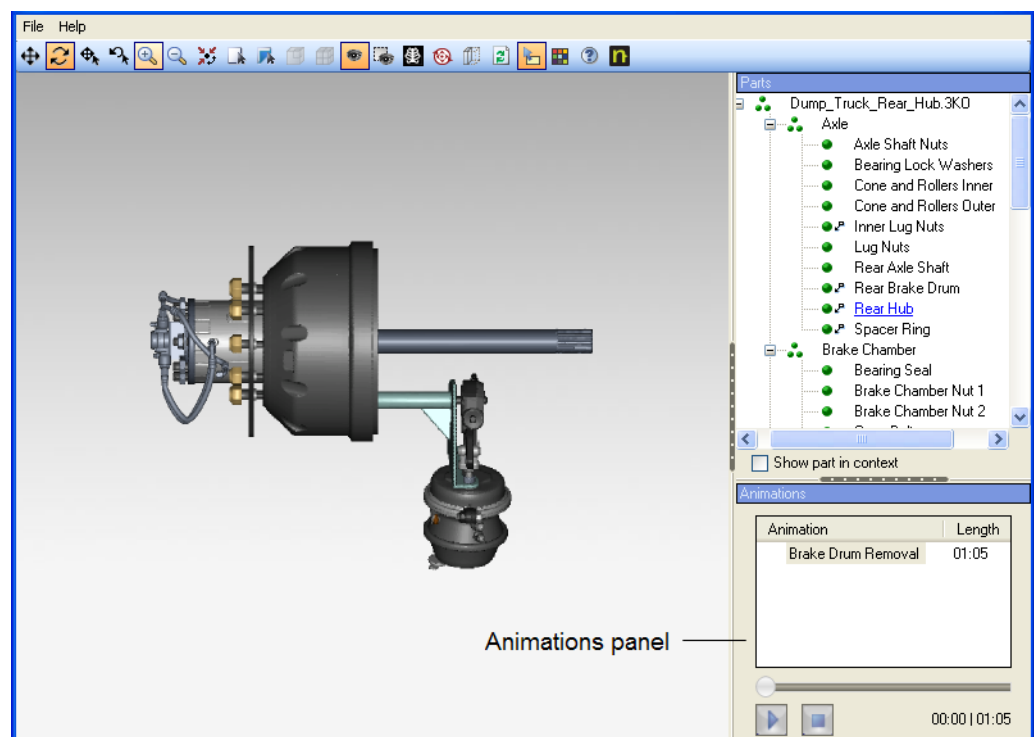
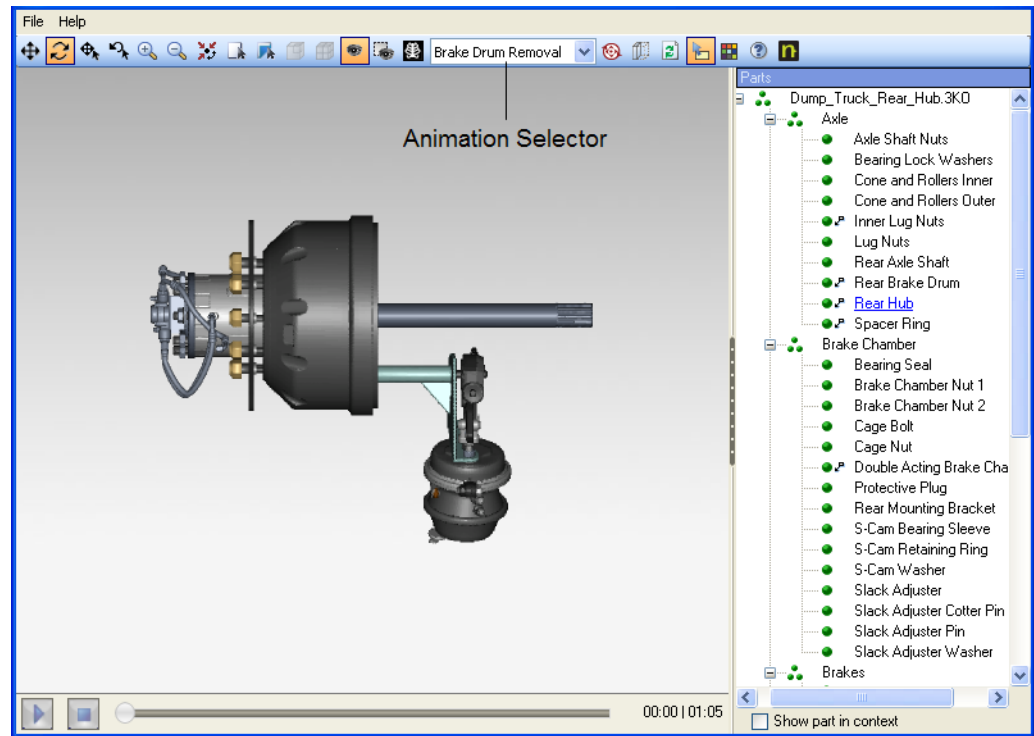

Figure 2.9 Select animations from the Animations panel, if included.
Figure 2.10 Select animations from the Animation Selector, if included.
- 1 Select the animation you want to view from the **Animations** panel (see Figure 2.9) or the Animation Selector on the toolbar (see Figure 2.10).